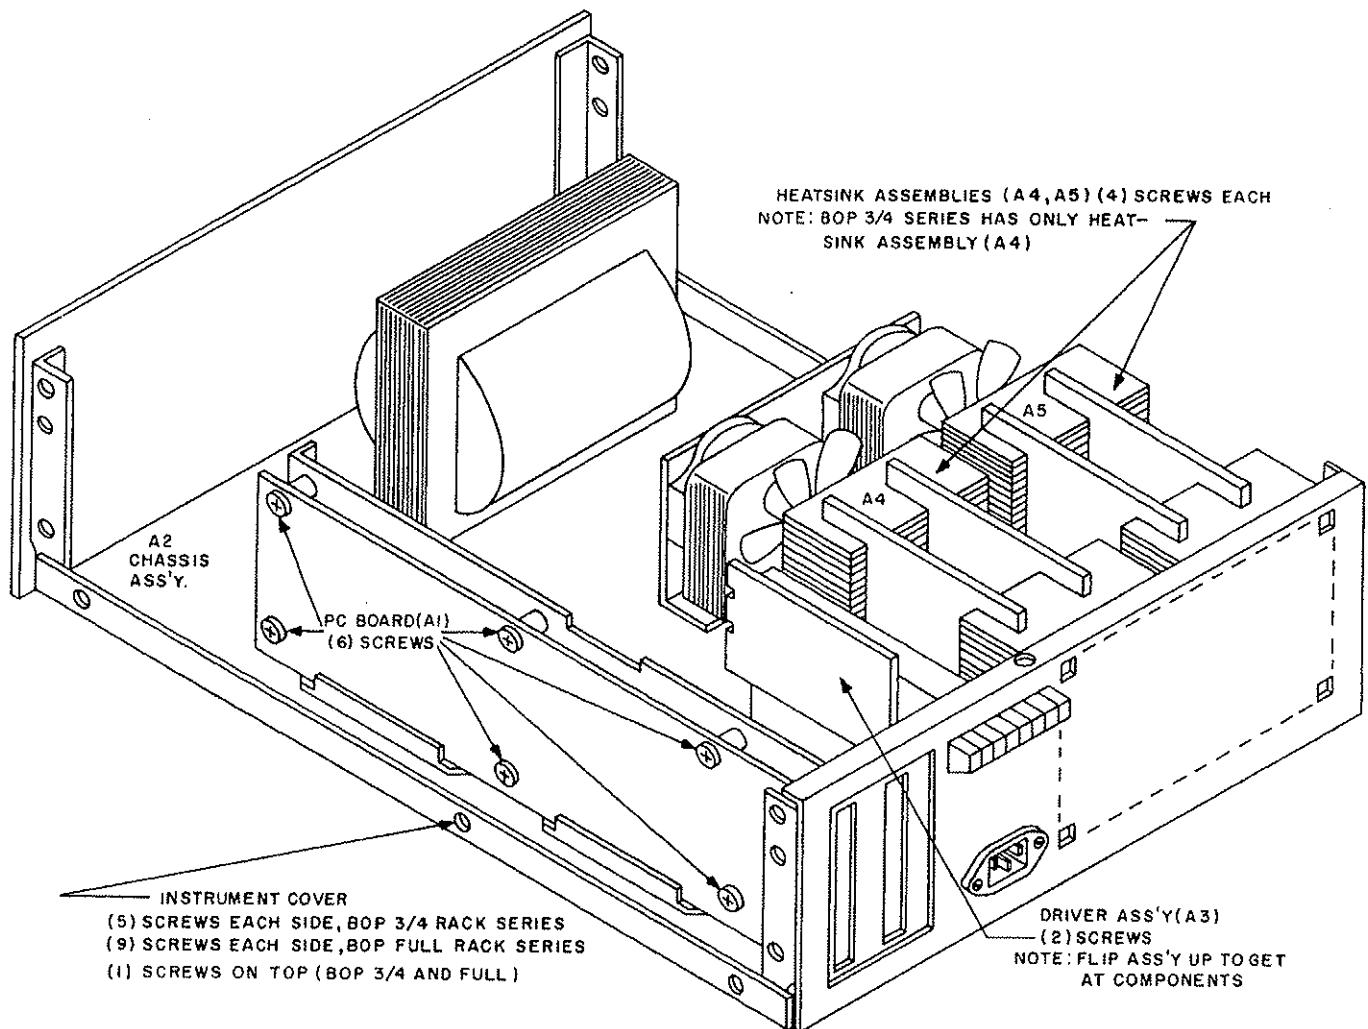
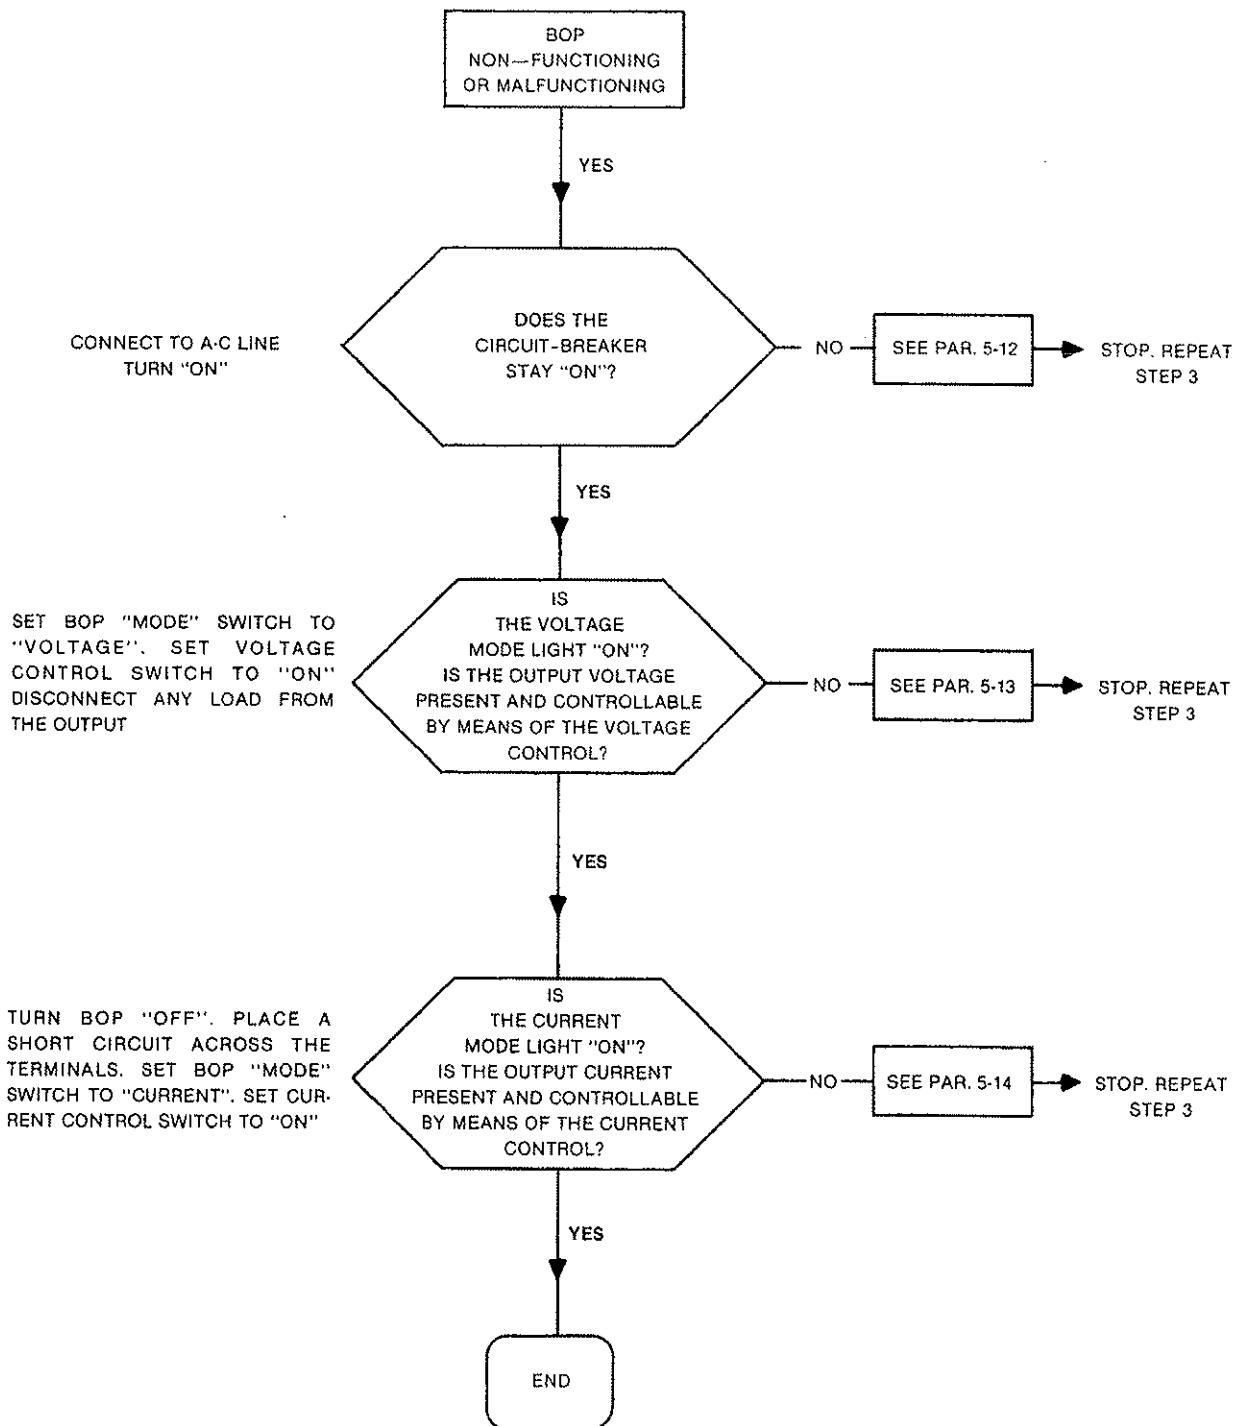

FIG. 5-1 DISASSEMBLY, BOP SERIES.
FIG. 5-3 TROUBLE SHOOTING, FLOW DIAGRAM
- 4-18 The subassemblies and the main chassis assembly are identified in the Disassembly drawing, Section V, FIG. 5-1. Subassemblies may be individually removed from the main chassis assembly by following the directions given in the drawing. Any component identified on the Main Schematic Diagram (Section VI, FIG. 6-4) may be traced to its physical location on the subassembly by means of its reference designations, the Disassembly drawing (Section V, FIG. 5-1) and the assembly listing in paragraph 4-17.
5-4 Remove the wrap-around cover and disassemble the printed circuit board card and assemblies as described and illustrated in FIG. 5-1 below.
SEE SPECIAL REFERENCES IN DISASSEMBLY NOTES ON FIG. 5-1.*
- 7) Adjust R316 (except on BOP 200-1M, adjust R314) (located on A3 assembly, see Figs. 5-1 and 6-3 for location) until current reading displayed on precision ammeter exactly matches the BOP rated output current (e.g. for a BOP 50-4M, adjust for exactly 4A.)
Instead, a systematic approach to trouble analysis is presented. Follow the flow diagram (FIG. 5-3) and refer to the applicable paragraphs. For further help in circuit analysis, refer to Section IV (Operational Theory and Circuit Description) and to the Main Schematic Diagram, Section VI (Fig. 6-5). For the actual repair and replacement of components refer to the Disassembly Diagram FIG. 5-1, the Parts Location Diagram, the Connection Diagram and the Replacement Parts List, in Section VI of this manual.
STEP NO. 4: Follow the FLOW CHART (FIG. 5-3) and refer to the appropriate paragraphs.